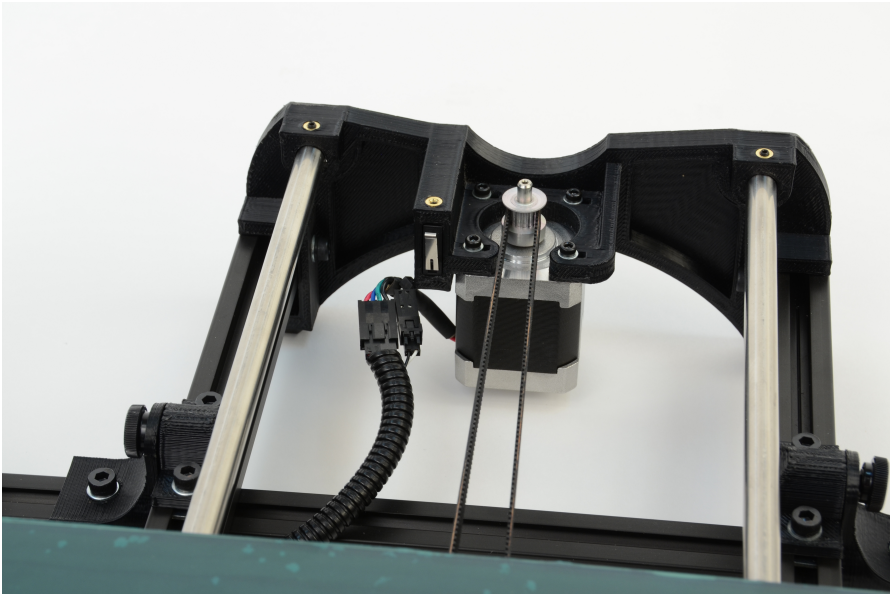

Figure 1.6: Connect the two connectors found at the rear of the Y axis
4. The next step of installing the Y axis is connecting the print surface connectors and Y axis connectors. Pull the print bed completely to the front of the printer to get access to the Y axis connectors. You will find matching male and female 4 pin stepper motor connectors and two pin end stop connectors. Connect the matching male and female connectors (Fig. 1.6, page 20); make sure the connector's lock clicks to be sure that it is secured.